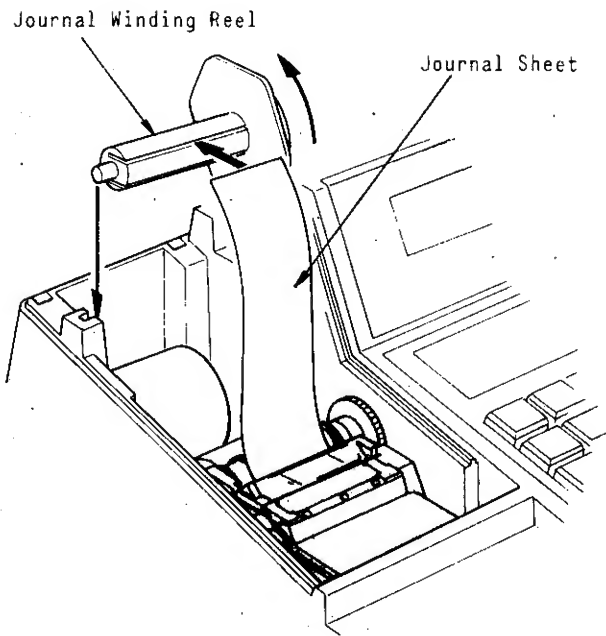

Fig. 4
4. Wind up the paper end of the journal sheet on the Journal Winding Reel two or three times, set the reel to the holder, and press the **FEED** key for a while to tense the paper. (Fig. 4)